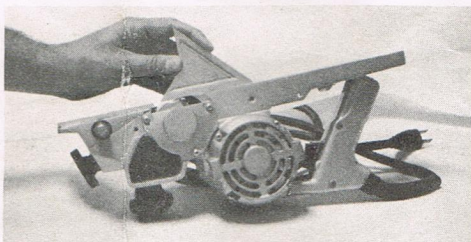

Fig. 1
BLADE ADJUSTMENT — Set depth of cut adjustment knob (M) to zero before starting adjustment. To adjust blade, rotate holder until the tip of the blade is in line vertically with the shaft center. Loosen Hex Head Screws (X) with the "T" wrench supplied; adjust blades using the adjusting screws (DD). The blade should be set to be level in its entire length with the stationary rear platen of the plane; this can be accomplished by using the triangular gauge supplied with your Powr-Kraft Plane (See Fig. 1) Tighten the Hex Head Screws (X). Repeat adjustment for second blade.